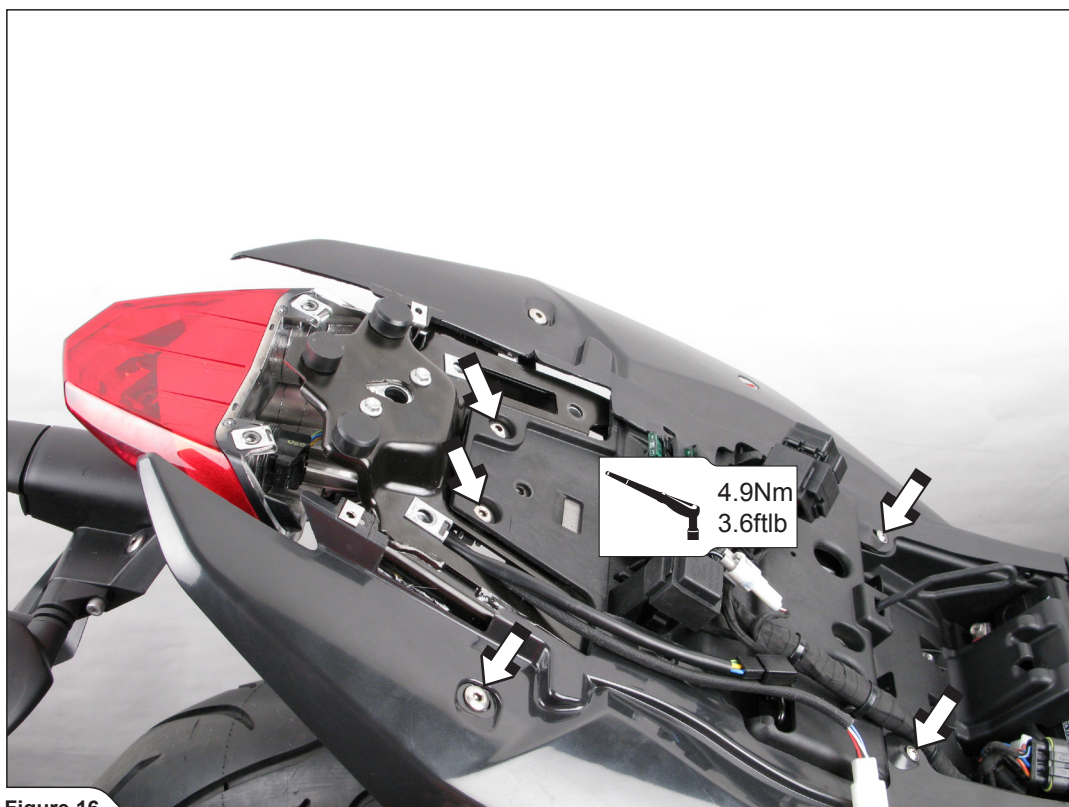

Figure 16
4. Assemble the license plate bracket with tail lamp and muffler cowlings back onto the motorcycle as shown (**Figure 16**).